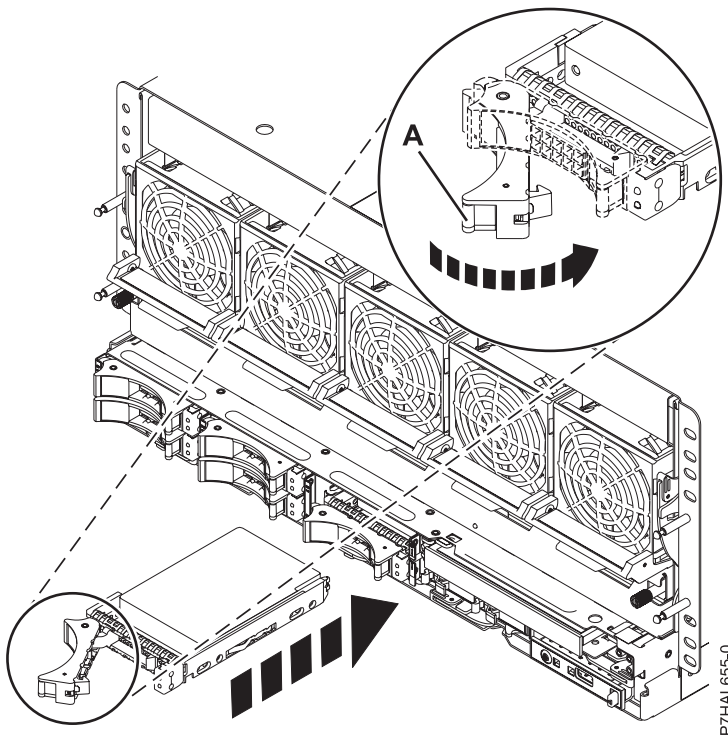

Figure 11. Installing the disk drive in the system
3. Unlock the drive handle (A) by squeezing it and pulling it out toward you. If the handle is not all the way out, the drive does not slide into the system or expansion unit.
8. When the identify LED turns on solid, slide the drive all the way into the system or an expansion unit, and push the drive handle (A) in until it locks, as shown in Figure 11.